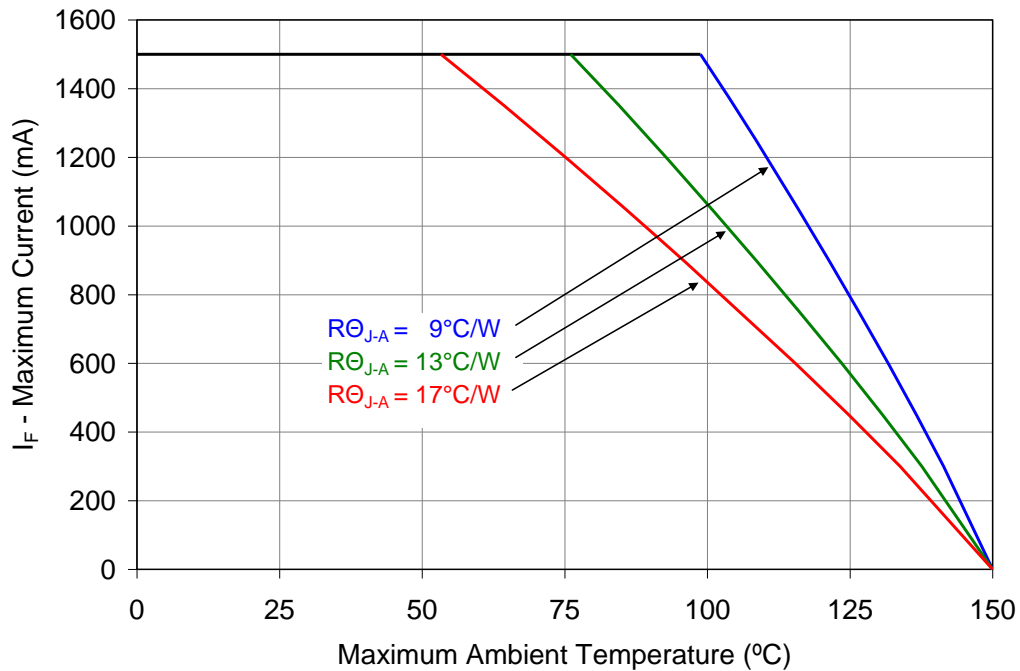

Figure 10: Maximum forward current vs. ambient temperature based on $T_{j(\text{MAX})} = 150^\circ\text{C}$.
- Maximum DC forward current is determined by the overall thermal resistance and ambient temperature. Follow the curves in Figure 10 for current derating.
Notes for Figure 10: